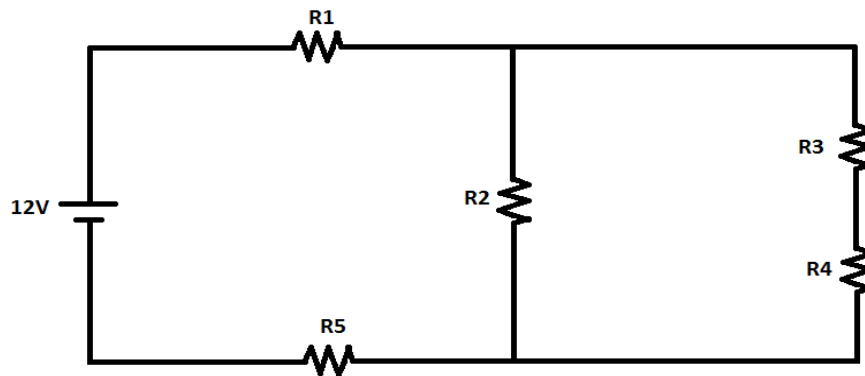

Figure 1(c) / Rajah 1 (c)
- (c) Referring to **Figure 1(c)**, given $R_1=10\Omega$, $R_2=5\Omega$, $R_3=5\Omega$, $R_4=3\Omega$ and $R_5=7\Omega$ calculate: